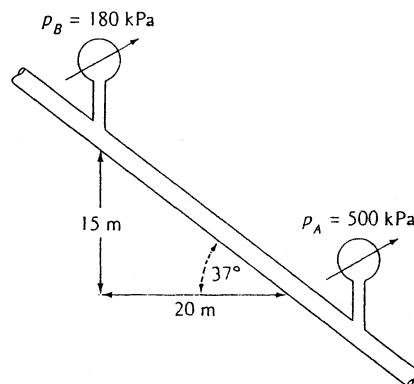

Fig. P6.32
6.32 SAE 30 oil at 20°C flows in the 3-cm-diameter pipe in Fig. P6.32, which slopes at 37°. For the pressure measurements shown, determine (a) whether the flow is up or down and (b) the flow rate in m³/h.